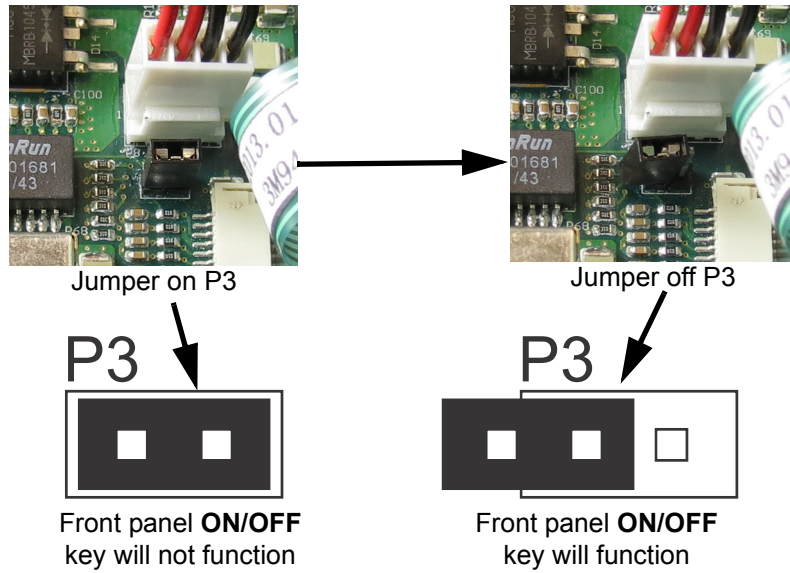

Figure 4 P3 jumper positions
4. Be sure to position the P3 jumper on the main PCB as shown in Figure 4 so the **ON/OFF** key on the front keypad will function. The jumper must be on one pin only, not both.